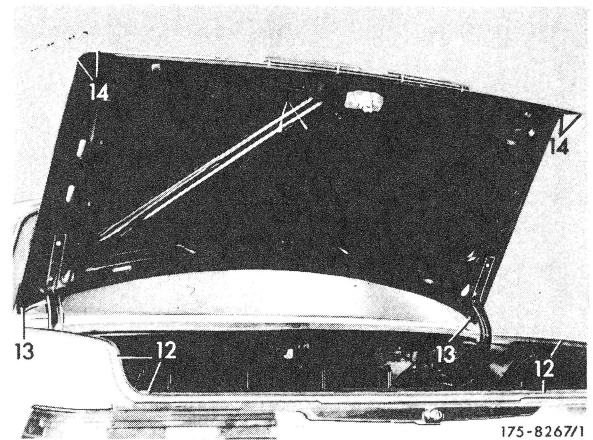

Fig. 6
11 Check seals on rear-end vents and reseal, if required (Fig. 6 and 7).
12 Check roof channel end under rear vents and reseal, if required. Touch up with vehicle paint. The molding need not be removed for this purpose (Fig. 6).
11 Seal trunk lid. Check sealing frame (12) for loose spots and damage, seal if required or renew (Fig. 6).
12 Check paint drain holes (13), remove seal residue, if required, and seal with sealing cord (Fig. 6).
13 Check trunk lid groove at rounded off points and corners (14) and seal, if required (Fig. 6).